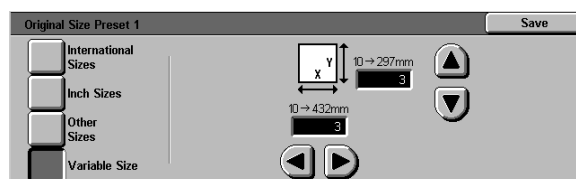

Figure 70: Original Size Presets screen (with Variable Size option selected)
- Touch the **Variable Size** button. Use the **right** and **left** arrows to set the X dimensions and the **up** and **down** arrows to set the Y dimensions for a customized preset original document size. (Figure 70)